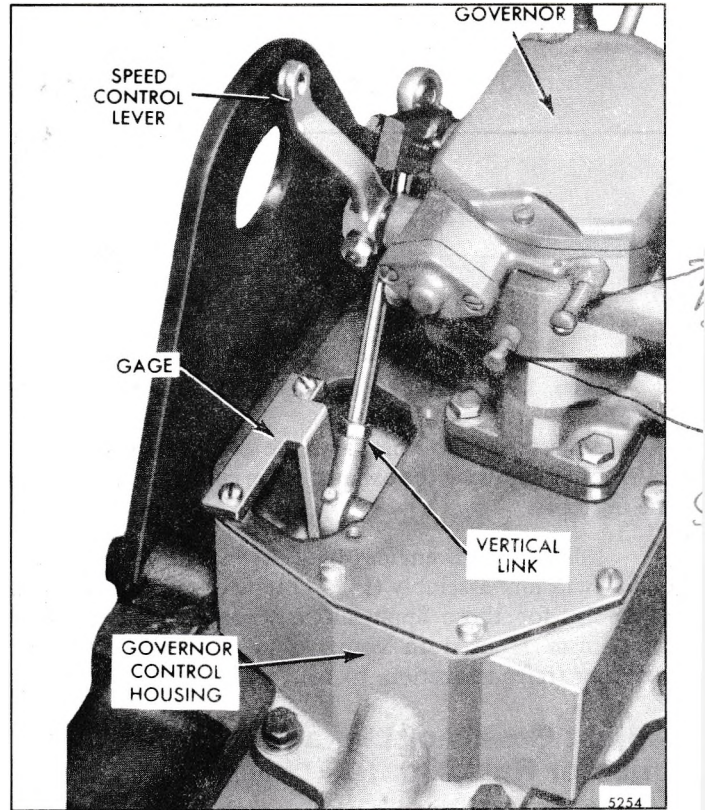

Fig. 5 Positioning of Current Governor Operating Link with Vertical Link (Gage J 23475-01)
4. **On current engines**, position the linkage setting gage J 23475-01 as shown in Fig. 5. This will place the left-bank operating lever in the correct *no-fuel* position.